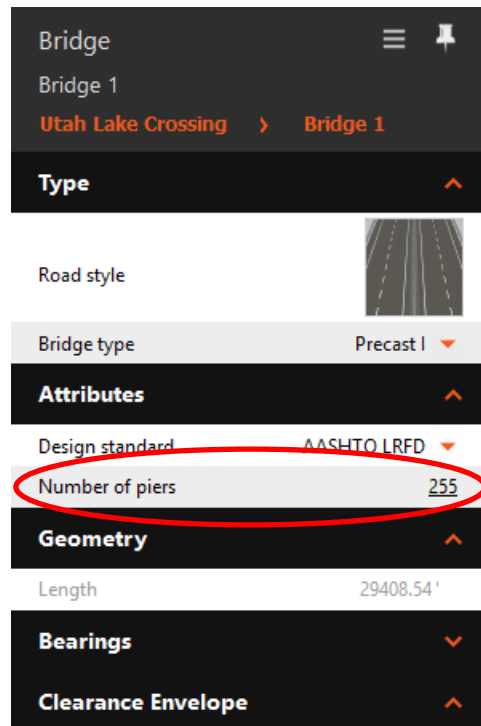

FIGURE 15
2. In the Bridge asset card, change Number of piers, as shown in Figure 15.